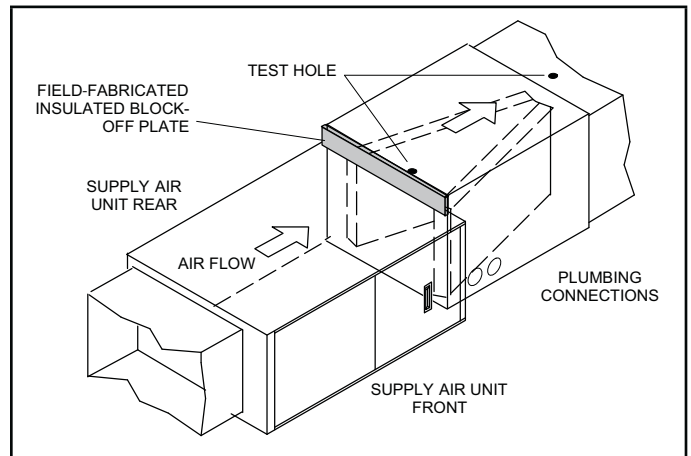

FIGURE 2. D-Width Coil with C-Width Furnace
- 5 - **Applications using NCHC*5S D-width unit with C-width furnace** - Figure 2 shows an application that includes a D-width coil and a C-width furnace. This application requires construction of an insulated, field-supplied block-off plate to cover the open space on the coil housing